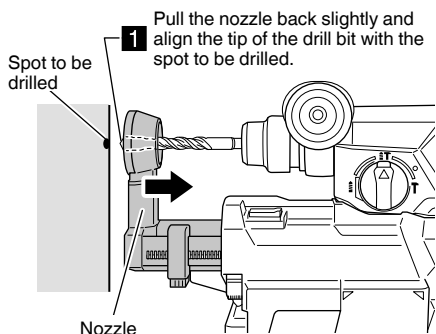

Fig. 10
(1) Grasp the nozzle with your hand and pull it back slightly, and align the tip of the drill bit with the spot to be drilled. (Fig. 10)